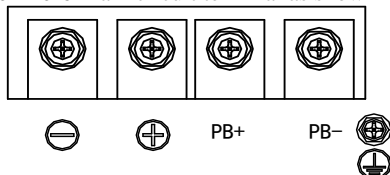

Figure 5-6 Main Circuit Terminal Block of BR100-220-6
- BR100-220-6 Main circuit terminal as shown in Figure 5-6